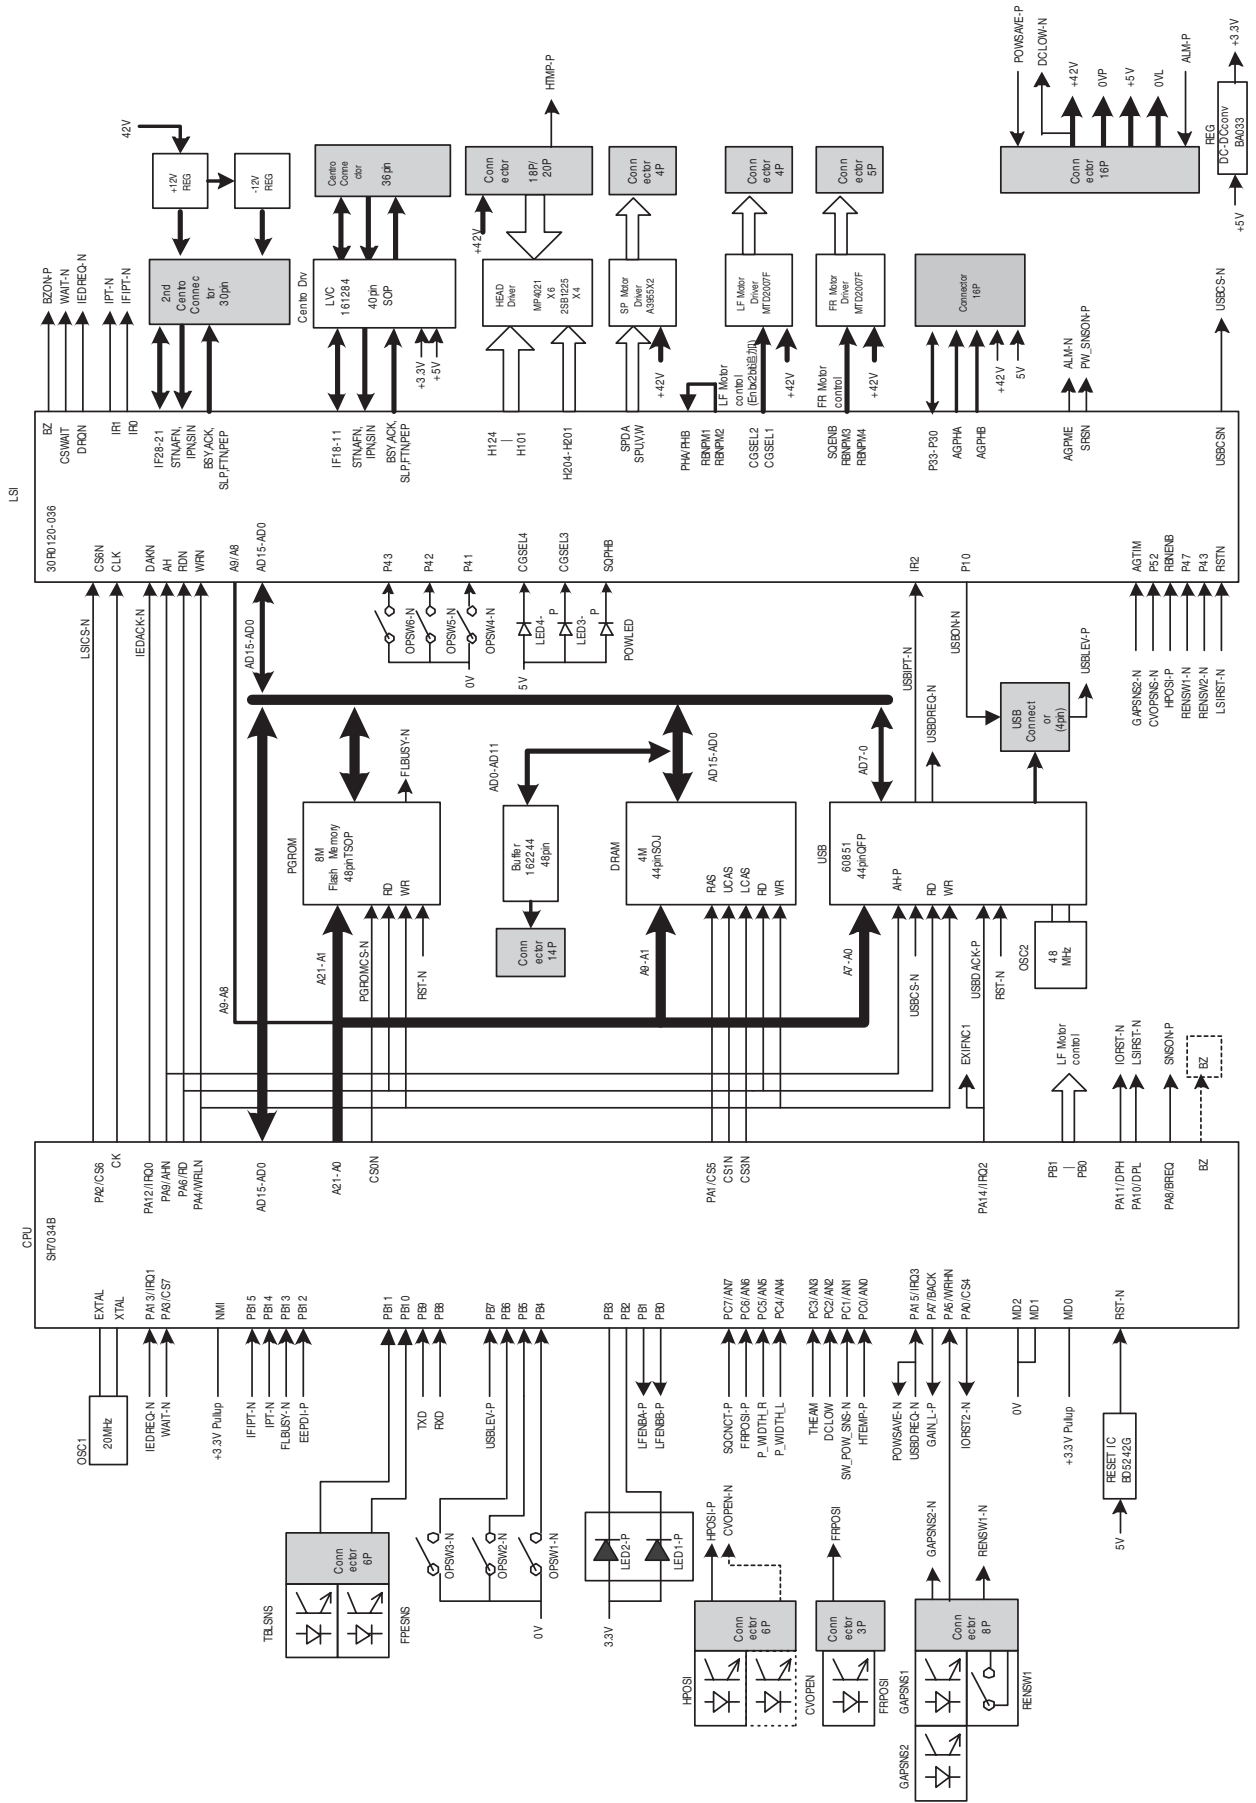

Fig. 10-1
10.2 Circuit Operation (See Fig. 10-1)